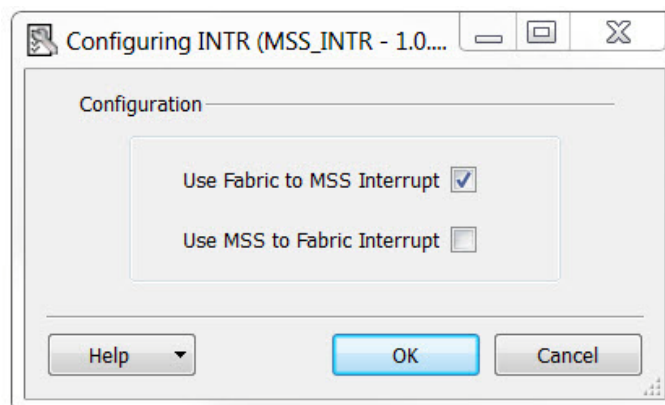

Figure 2-6 • MSS Interrupts Management Configuration
6. Double-click **Interrupt Management** to open and configure the MSS Interrupts. Check the option **Use Fabric to MSS Interrupt** (Figure 2-6). Click **OK** to continue.